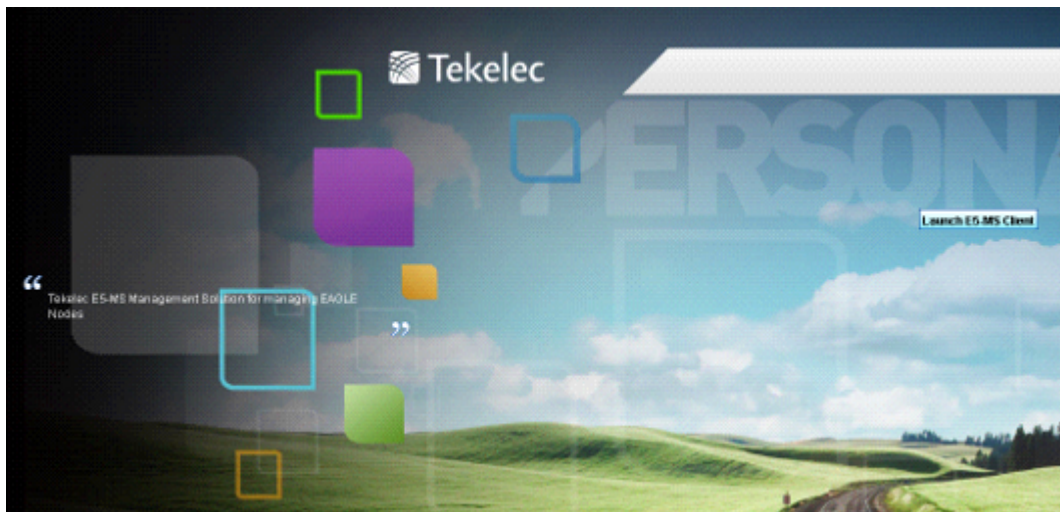

Figure 2: E5-MS Launch Screen
The E5-MS Graphical User Interface (GUI) that provides a comprehensive geographical view for users to monitor and control in a client's network. The user receives real-time performance data from the EAGLE system which assist in maintenance operations. The System Administrator and Users launch the E5-MS to login as shown in Figure 2: E5-MS Launch Screen from a client workstation.
1. From the Figure 2: E5-MS Launch Screen, click Launch E5-MS Client.